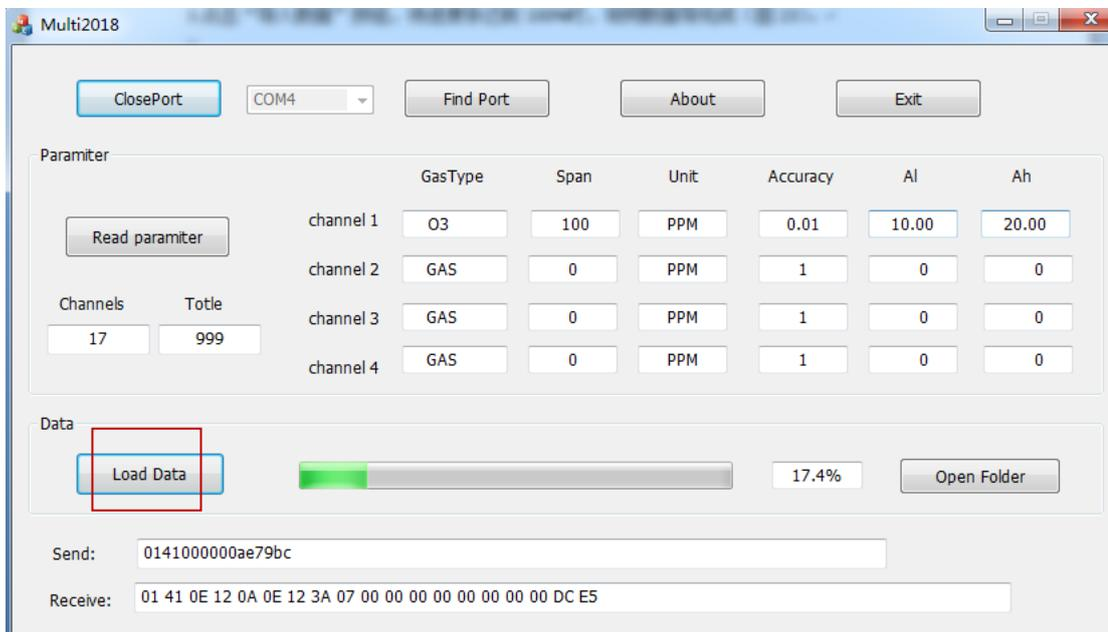

Figure 23
3) Click the "Load Data" button, when the progress bar reaches 100%, the data guide is completed (Figure 23).
4) After the data import is completed, click the “Open Folder” button (Figure 23), the “MULTI_RECORD_DATA” folder will be automatically played (Figure 24). And the EXCEL file will appear and which is the imported storage data file. Click to view the data (Figure 25);